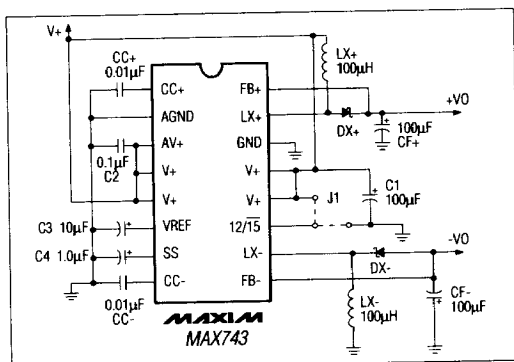
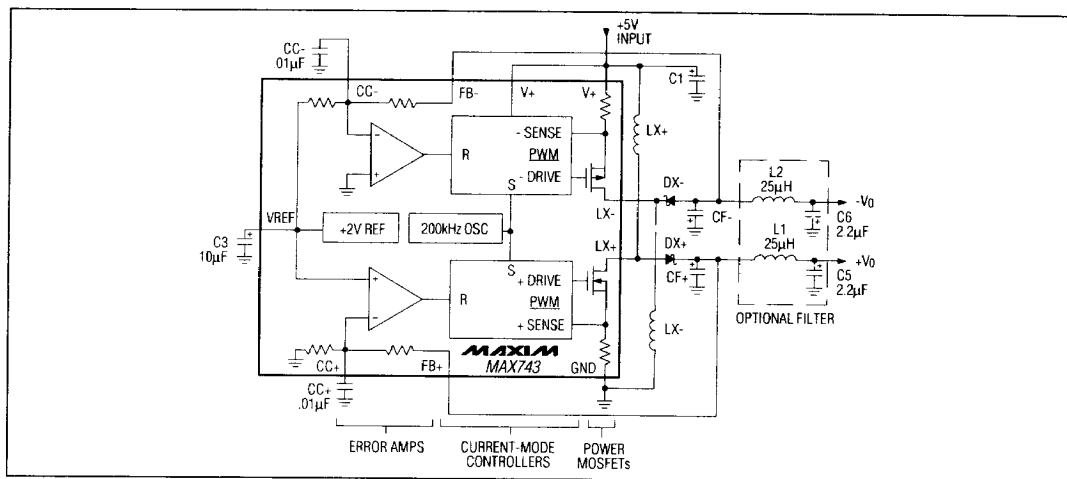
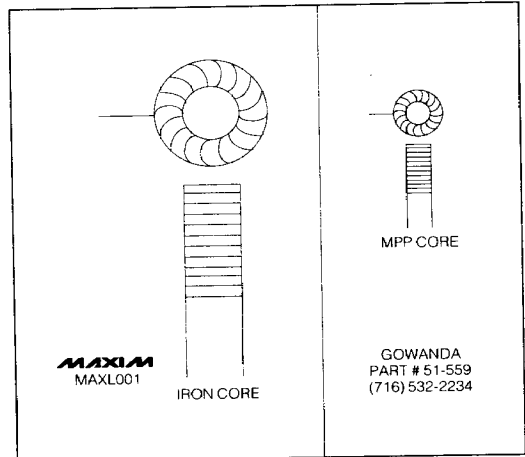
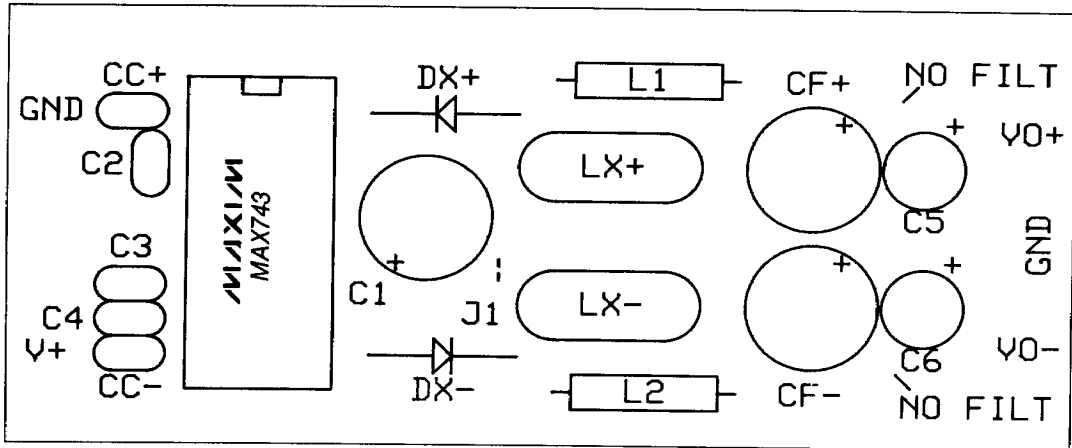

Figure 1. Basic Application Circuit
Figure 4. Functional Diagram with Optional Pi Filter
Figure 5. 100 μ H Low-EMI Inductors for 3W Supplies (Actual Sizes) (See Table 1)
Figure 7. Component Placement Diagram for PC Layout of Figure 6
(Circuit of Figure 1, $+4.5V < V+ < +5.5V$, Note 1.)
(Circuit of Figure 1, $V+ = +5.0V$, 12/15 pin = 0V, $I_{LOAD} = 0$, $T_A = T_{MIN}$ to T_{MAX} , unless otherwise noted.)
The circuit in Figure 1 has been tested at all line, load, output current, and temperature limits. Refer to the Electrical Characteristics table for guaranteed in-circuit specifications. Successful use of this circuit requires no component calculations.
The MAX743EVKIT Evaluation Kit demonstrates the output capabilities and noise performance of the MAX743 standard application circuit (Figure 1). The kit includes main switching components identical to those found in the high-volume production kit described on page 11 (MAX743CPEKIT). With a few quick modifications, the circuit can also serve as a low-noise test bed to evaluate other components, such as the miniature MPP toroid inductor of Figure 5. The kit includes optional Pi filters shown in the Functional Diagram (Figure 4), which reduce output noise to less than 2mVp-p.
1. Build Circuit. Assemble the PC board according to the component placement diagram of Figure 7 and the schematic of Figure 4. 3 resistors will be left over (and used for testing). The extra holes near LX and CF are options for nonstandard component sizes. Do not install jumper, J1, or C4.